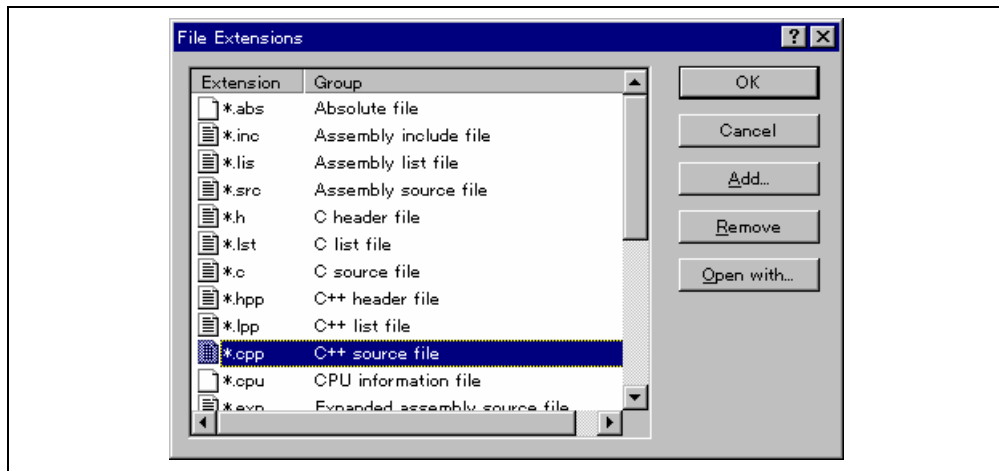
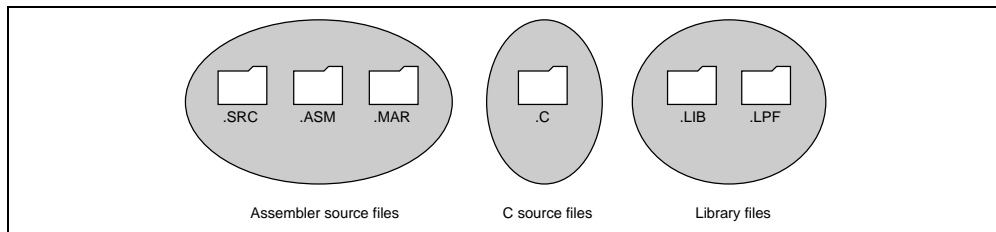

Figure 2.7: File Extensions Dialog
Figure 2.8: File Extensions and Groups
File extensions and file groups can be viewed and modified via the “File Extensions” dialog (figure 2.7). This is invoked by selecting **[Project->File Extensions...]**. This dialog displays all of the extensions and file groups, which are defined within the current workspace.
The “File Extensions” list shown in figure 2.7 is divided into two columns. On the left are the file extensions themselves, whilst on the right are the file groups. Many file extensions can belong to the same group. For example, assembler source files may have several extensions in a single project (e.g. .src, .asm, .mar etc) as shown in figure 2.8.
1. Select **[Project->File Extensions...]** from the menu bar. The “File Extensions” dialog will be displayed (figure 2.7).